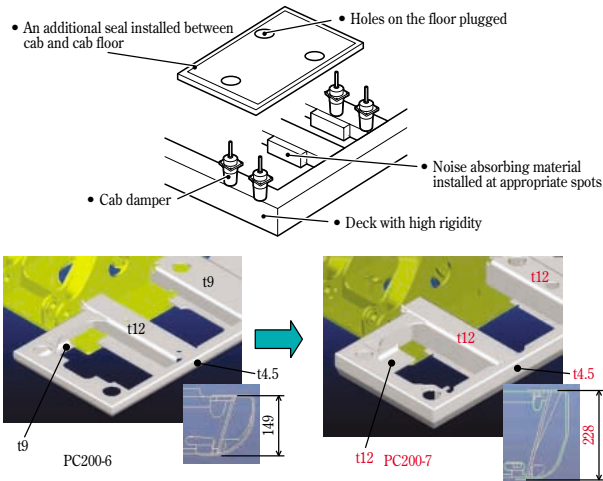

Fig. 10 Measures for Lowering Noise from Deck and Cab Floor
(3) For the purpose of realizing fewer vibrations in the cab interior, the height of a deck supporting the operator's cab has been raised to the level of that on PC300-6, and thickness of the structural materials has been increased to enhance their rigidity to lower the vibrations transmitted to the revolving frame. For realizing lower noises in the cab interior, meanwhile, a noise absorbing material has been fitted to the deck below the cab, which fills clearance in between. Entry of noises transmitted through air into the cab is thus prevented. (See Fig. 10)